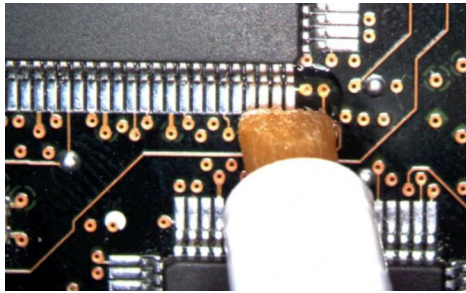

Figure 38 Applying Flux
- 3 Apply flux to your target leads as shown in Figure 38.